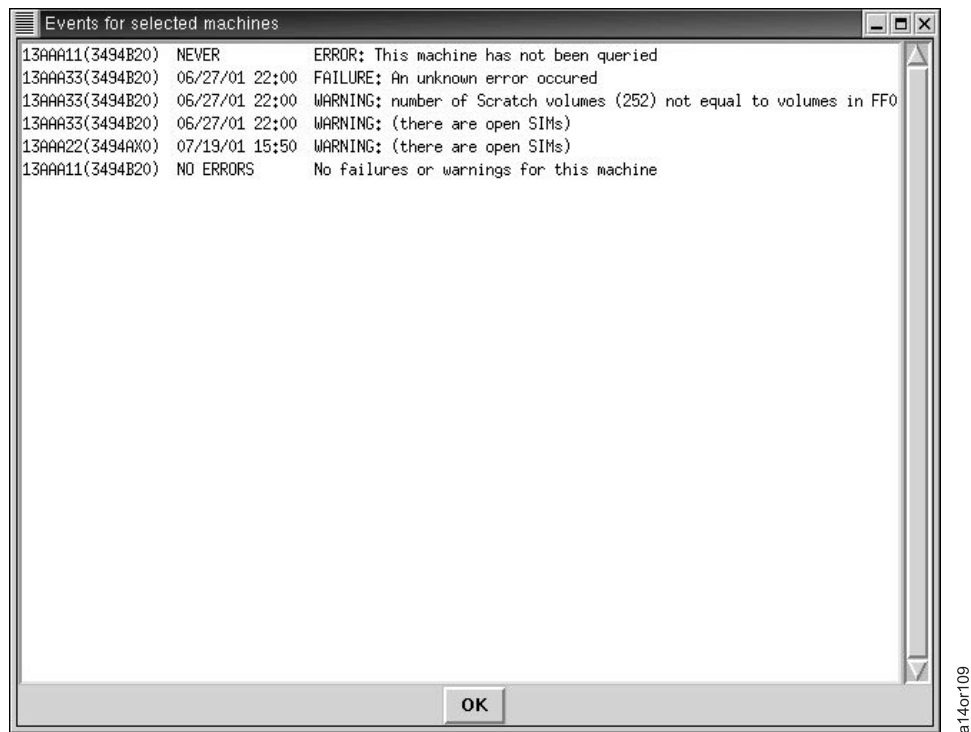
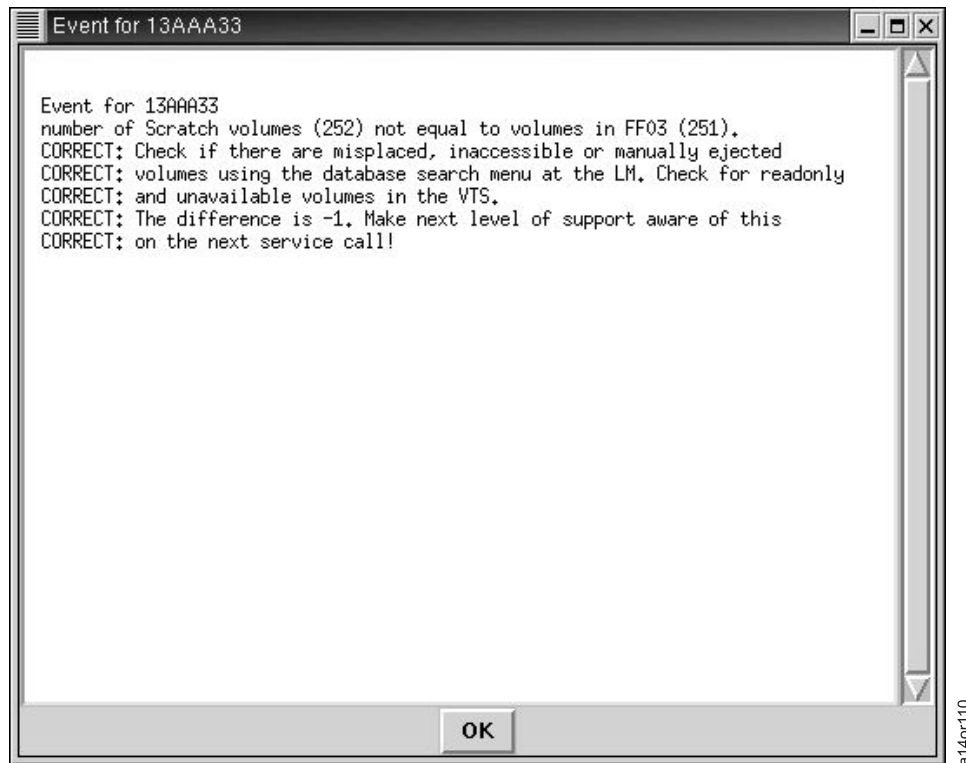

Figure 3-6. Tape System Service Information – Events
Figure 3-7. Tape System Service Information – Event Detail
6. The Tape System Service Information may be reviewed at various levels of detail. The main screen shows a one-line status summary for each system attached to the console. Selecting one or more of the systems in the listing and clicking **View Events** results in a listing of the specific service events that resulted in the failure or warning status, as shown in Figure 3-6.
7. Double-clicking one of the events shown in Figure 3-6 results in the full details of the event, as shown in Figure 3-7 on page 3-6.